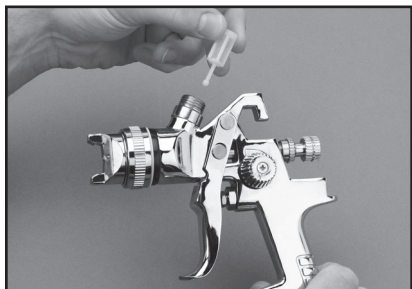

Figure 3. Installing filter.
1. Insert the filter into the gun body (see **Figure 3**).